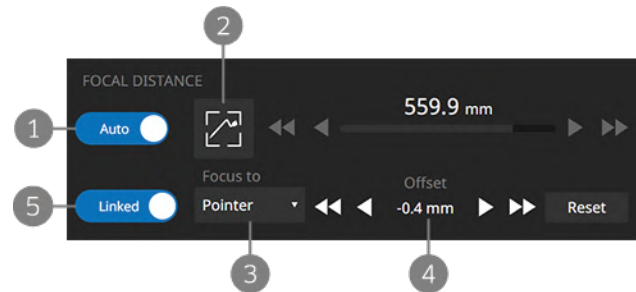

Figure 66 Auto-focus features on the Procedure screen
- Tap the snap focus icon on the Procedure screen (item 2 in Figure 66 above).